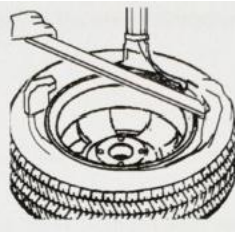

Fig 14
-Make the tyre edge onto the M/D head (Fig 14)and press down foot pedal K to turn the turntable clockwise until the tyre edge separated.